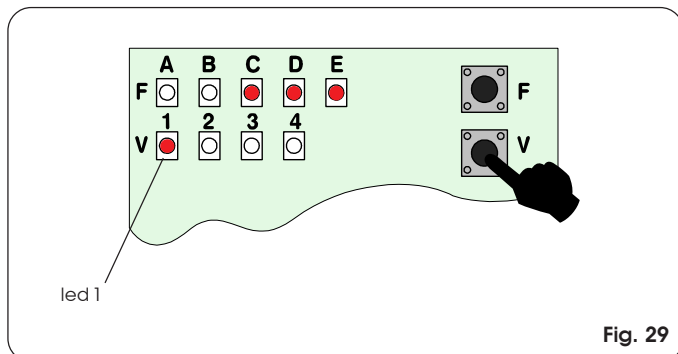
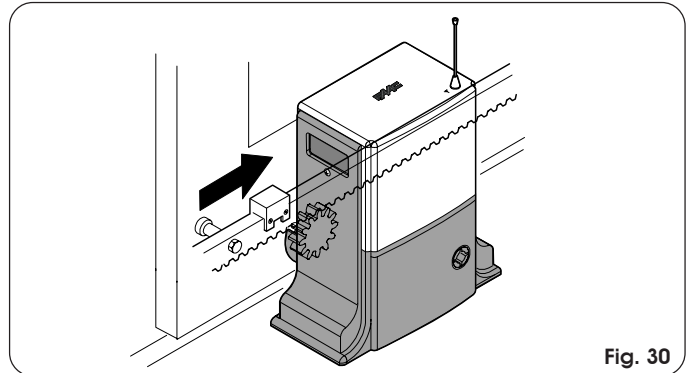
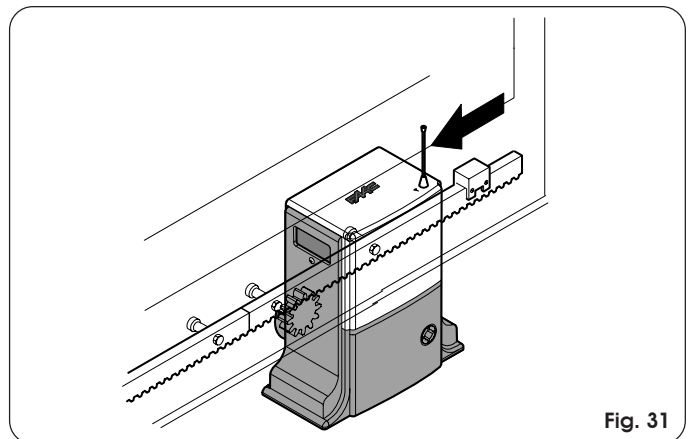

Fig. 29
Fig. 30
Fig. 31
- Press push-button P2 (Fig. 29 and par. 8.4) to enter the inputs status function.
- Slide the magnet on the rack (Fig. 30) until you see that LED 1 on the control board goes off (Fig. 29).
- Slide the magnet on the rack (Fig. 31) until you see that LED 1 on the control board goes off (Fig. 29).